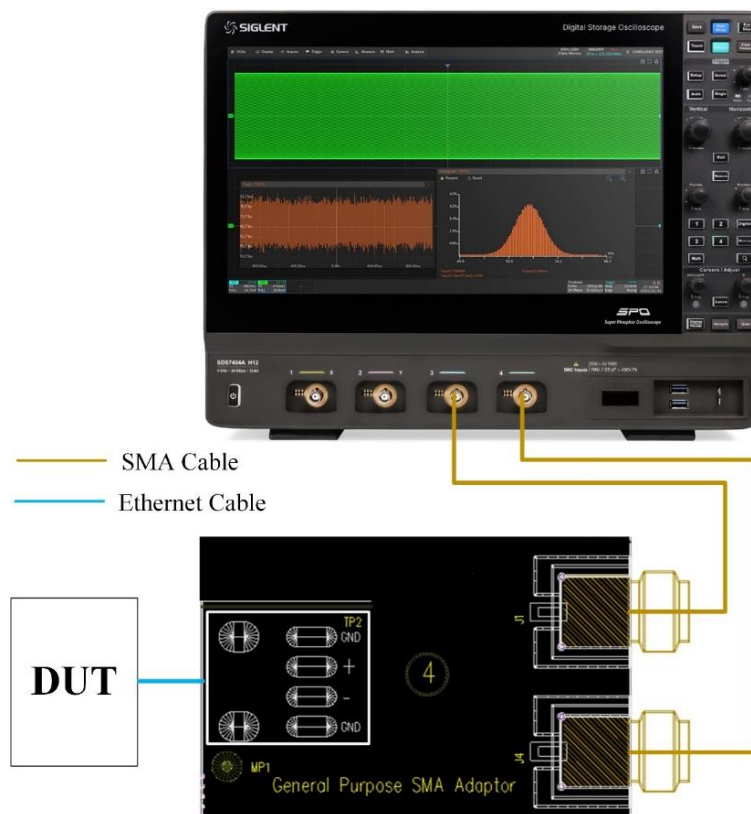

Figure 4-5 Connection diagram displayed in the Connect tab
- **Connect:** This tab displays the connection diagram of the compliance test, which is shown in Figure 4-5. If more than one item is selected simultaneously, only the connection diagram for the first test item will be displayed. For the other test items, if the connection is different, then a new pop-up window will appear at the end of the previous test.